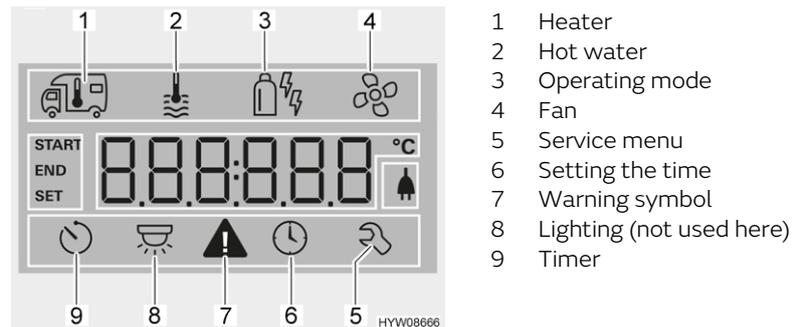

Fig. 57 Display (operating unit)
- Turn rotary push button (Fig. 56,6) until the heater menu symbol (Fig. 57,1) flashes.
- Turn rotary push button (Fig. 56,6) until the hot water menu symbol (Fig. 57,2) flashes.
- Turn rotary push button (Fig. 56,6) until the menu symbol operating mode (Fig. 57,3) flashes.
- Turn rotary push button (Fig. 56,6) until the fan menu symbol (Fig. 57,4) flashes.
- Turn rotary push button (Fig. 56,6) until the timer menu symbol (Fig. 57,9) flashes.
- Press rotary push button. The timer is activated. The timer symbol (Fig. 57,9) flashes when the timer is programmed and active.
The warning symbol (Fig. 57,7) flashes in the event of a warning. The heater continues to operate. In the event of only a temporary fault, the warning symbol goes out automatically.